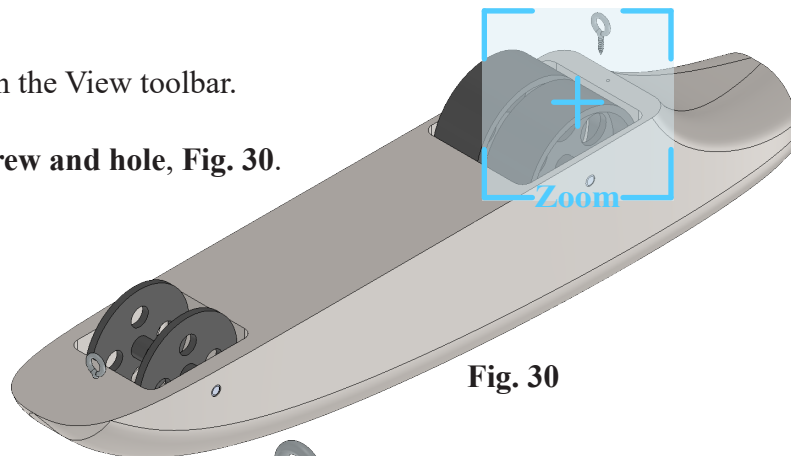

Fig. 30
Step 7. Click Zoom to Fit  (F) on the View toolbar.
Step 8. Zoom in around **rear Eye Screw and hole**, Fig. 30.